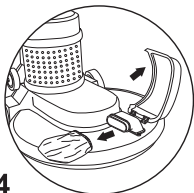

Fig.4
2. Open the Burnisher's front compartment (Fig.4).